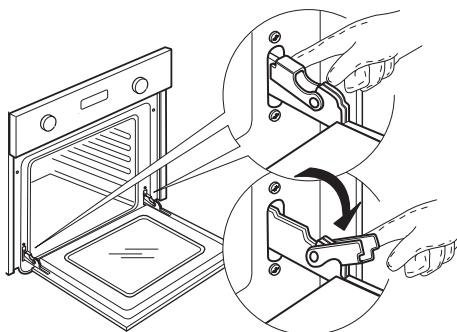

Fig. 1
- Lift the catches and push them forwards as far as they will go (Fig. 1).